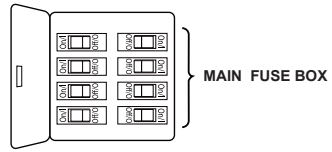
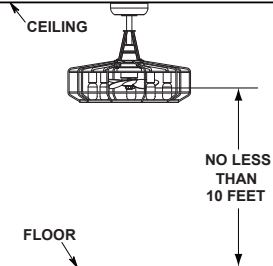
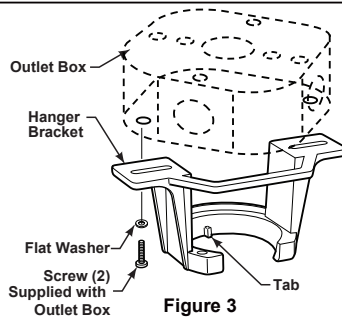

Figure 1
Figure 2
Figure 3
Your new ceiling fan will require a grounded electrical supply line of 120 volts AC, 60 HZ, 15 Amp Circuit. Electrical code requires use of a fan-rated outlet box to support the extra weight and motion associated with a ceiling fan. A fan-rated box will be labeled as such and typically supports up to a 70lbs ceiling fan. Fan-Rated Outlet Boxes vary in ratings and design. Ensure the ratings of your ceiling fan outlet box meet the requirements for the ceiling fan being installed. Figure 1, Figure 2 and Figure 3 depicts different structural configurations that may be used for mounting the outlet box.
Low-profile use (Figure 1)
Deep-profile use (Figure 2)
Brace use (Figure 3)
1. Remove the hanger ball portion from the downrod/hanger ball assembly by loosening the set screw in the hanger ball until the ball falls freely down the downrod. Remove the pin from the downrod, then remove the hanger ball. Retain the pin and hanger ball for reinstallation in Step 9. (Figure 1)
2. Remove the hairpin clip and clevis pin from the bottom of the downrod. Retain the pin and clip for reinstallation in Step 4. (Figure 2)
3. Loosen the two set screws and locking nuts in the downrod support of the motor assembly. Route the black, white and blue wires through the downrod. (Figure 3)
To avoid possible fire or shock, be sure electricity is turned off at the main fuse box before hanging. (Figure 1)
The fan must be hung with at least 10' of clearance from floor to blades. (Figure 2)
1. Securely attach the hanger bracket to the outlet box (not included) using the outlet box screws and washers supplied with the outlet box. (Figure 3)
1. To set the code on receiver unit, slide dip switches to the same positions as set on the remote. (Figure 1)
To avoid possible electrical shock, be sure electricity is turned off at the main fuse box before wiring. (Figure 2)
2. Slide the receiver into the hanger bracket before wiring as shown in figure 3.
- ☐ 2. Securely attach and tighten the canopy screw cover over the shoulder screws in the hanger bracket utilizing the key slot twist-lock feature. (Figure 2)
- ☐ **2.** Restore electrical power to the outlet box by turning the electricity on at the main fuse box. (Figure 2)
- ☐ **3.** To make fan operational, install 23A/12V battery (included) in hand-held remote transmitter, with fan power off. Then follow the remote code setting process. (If not used for long periods of time, remove battery to prevent damage to transmitter). Store the remote away from excessive heat or humidity. (Figure 3)